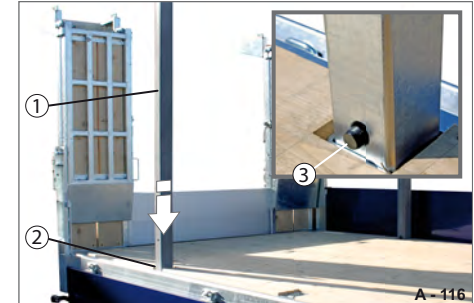

Fig. 171 Inserting the slot-in post
- Insert the slot-in post (Fig. 171/1) completely into the post pocket (Fig. 171/2).
The slot-in post automatically engages in the post pocket and is secured with the integrated locking button (Fig. 171/3).